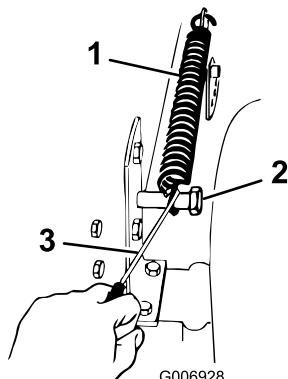

Figure 42
9. Remove the lift assist spring between the mower right side lift bracket and the retaining bolt (Figure 42).